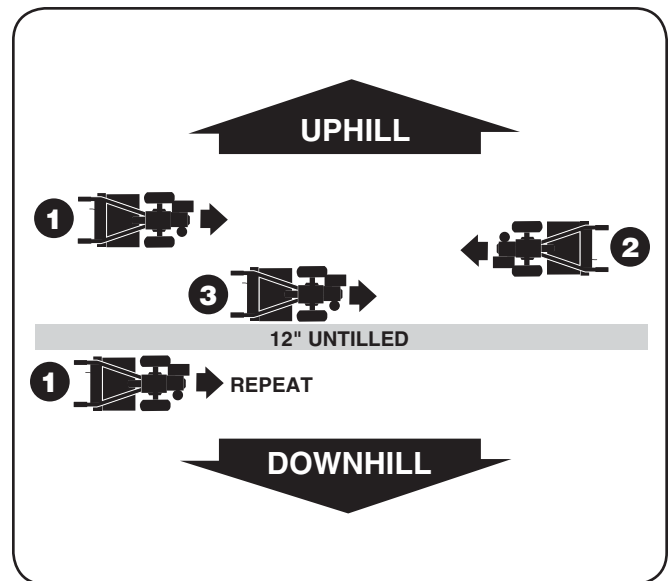

Figure 5-8
1. To create a terrace, start at the top of the slope and work down. Go back and forth across the first row as shown in Fig. 5-8.